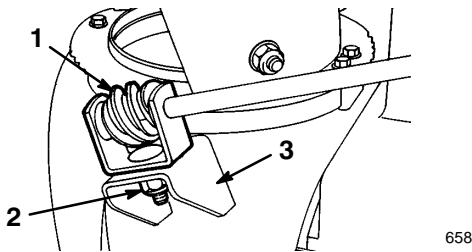

Figure 12
3. Loosely mount the worm gear and bracket to the mounting flange with a bolt, pyramidal washer, and locknut (Fig. 12).
4. Slide the worm gear into the teeth of the chute retaining ring and tighten the locknut (Fig. 12).